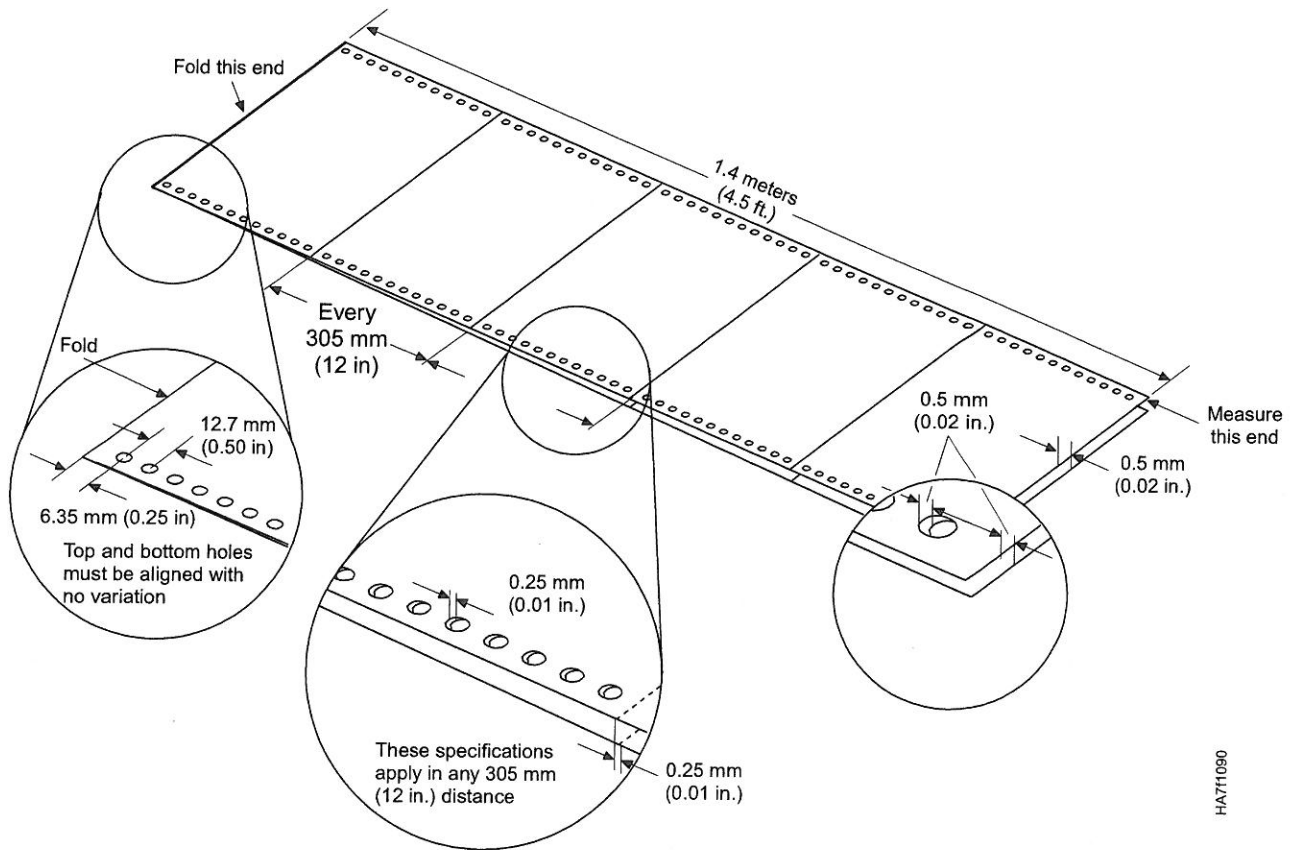

Figure 9. Perforation Accuracy
3. Measure the distance from either the edge or the tractor hole of the first sheet to those on the last sheet, as shown in Figure 9 on page 14.
4. Refer to Figure 9 on page 14 and measure along each edge to verify that in **any** 305 mm (12 in.) of forms, the distance from either the edge of the tractor holes or the page perforations on the top sheet to the edge of the holes or the page perforations on the bottom sheet does not exceed 0.25 mm (0.01 in.).